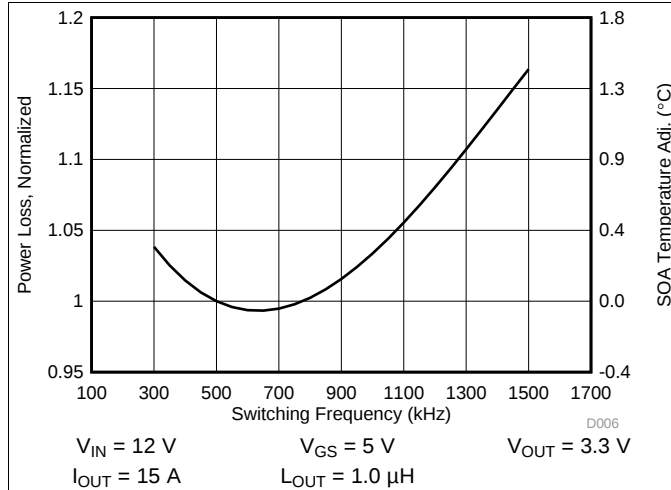

Figure 6. Normalized Power Loss vs Switching Frequency
- Normalized Power Loss for switching frequency ≈ 1.03 (Figure 6)
- SOA adjustment for switching frequency $\approx 0.3^\circ\text{C}$ (Figure 6)